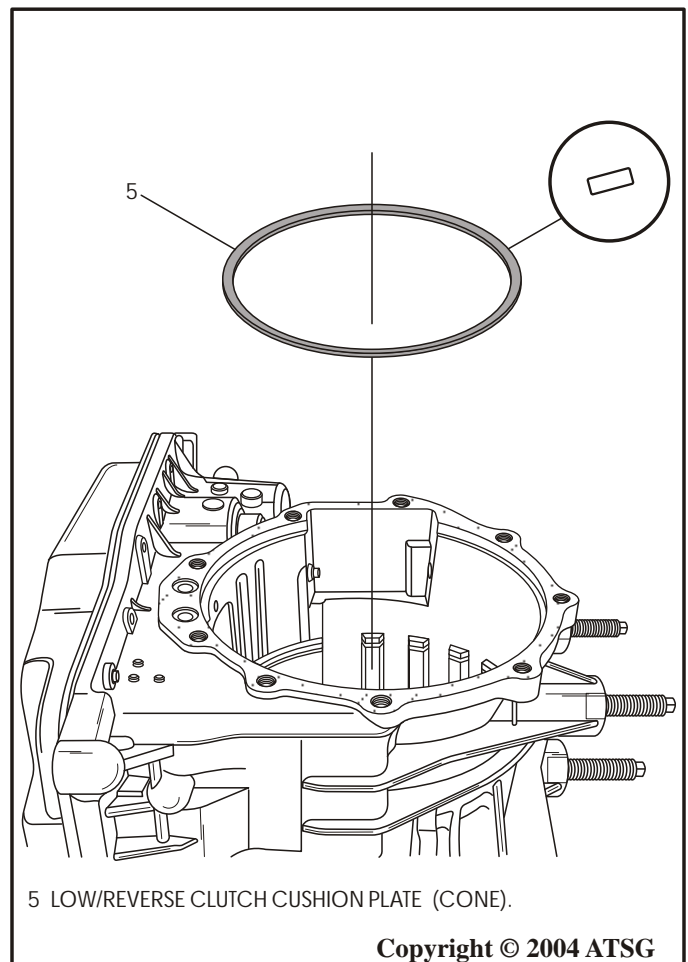

Figure 166
31. Install the low/reverse clutch cushion (cone) spring on top of the low reverse clutch piston in the direction shown in Figure 166.